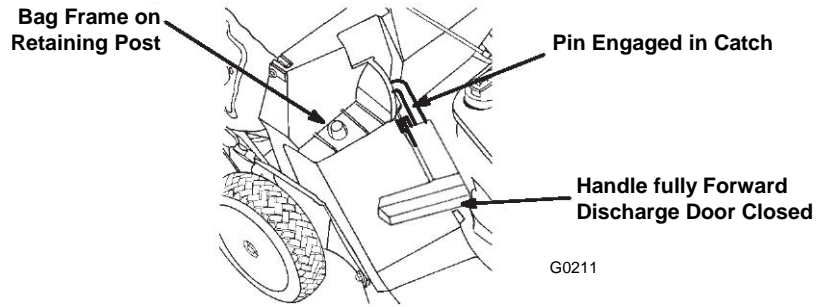

Figure 10
2. Ensure that the discharge door handle is fully forward and that the pin is engaged in the catch (Fig. 10).
2. Raise the discharge door handle and move it forward to engage the pin with the catch (Fig. 10).